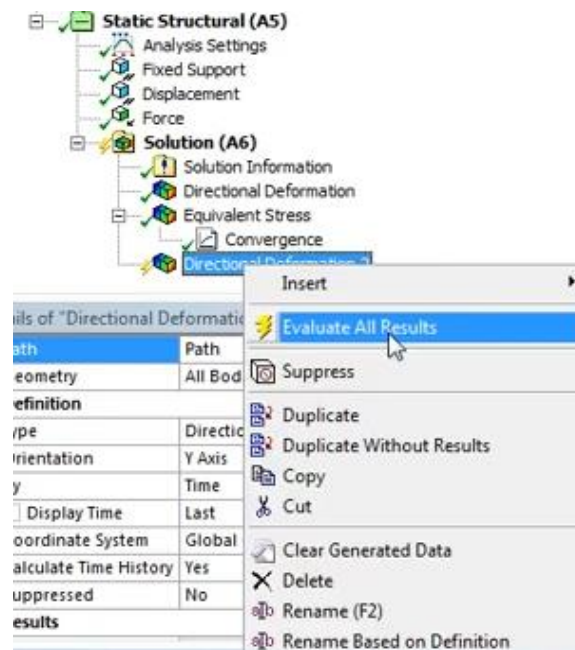

Рис. 19
*Solution(A6) → Directional Deformation2 → Evaluate All Results (рис. 19)*